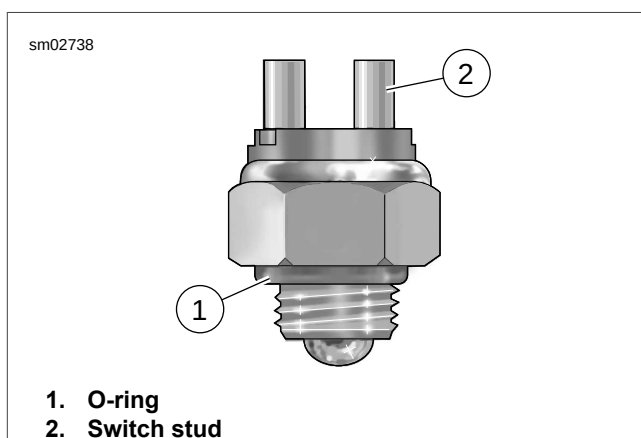

Figure 7-97. Neutral Switch
3. See Figure 7-97. Remove connectors from switch studs.
1. See Figure 7-97. Lubricate O-ring with transmission oil.